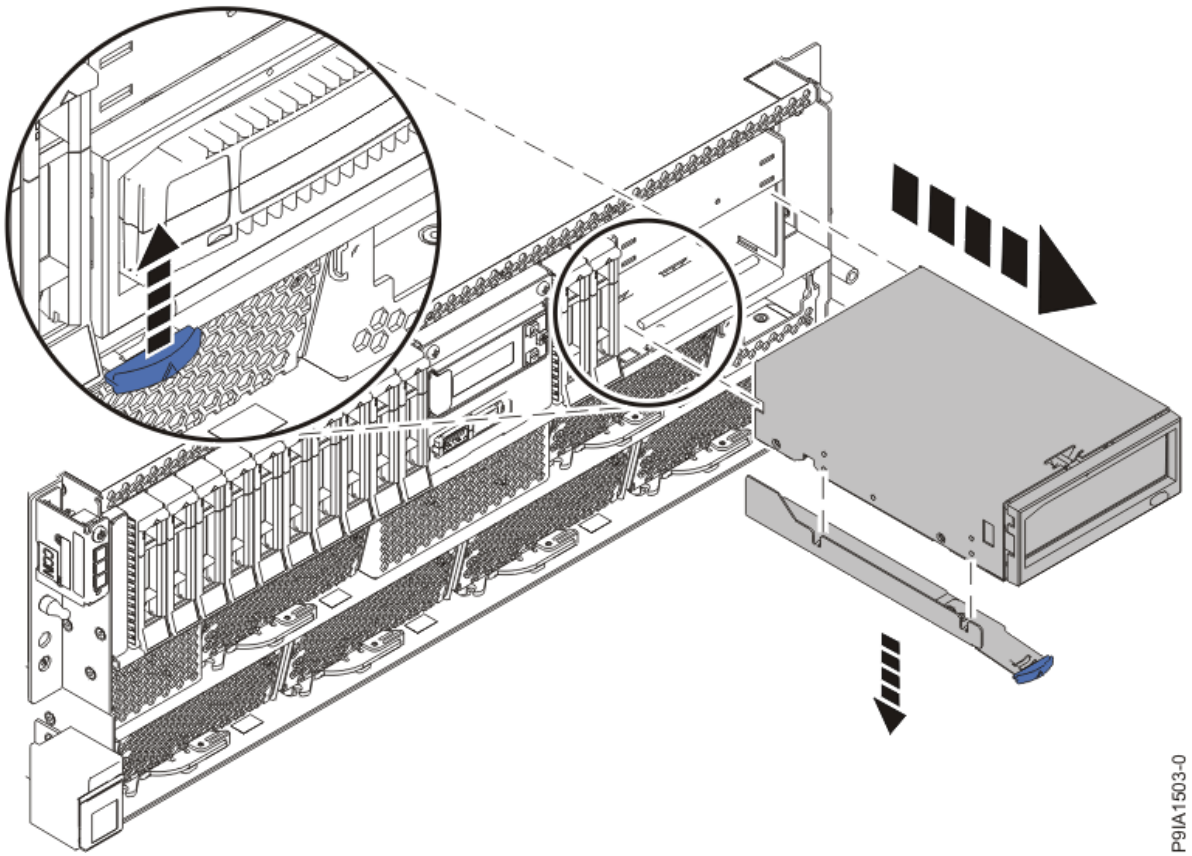

Figure 34. Removing the internal RDX docking station from a rack-mounted system
- a) Push the blue tab on the internal RDX docking station latch upwards to release the internal RDX docking station as shown in Figure 34 on page 41.